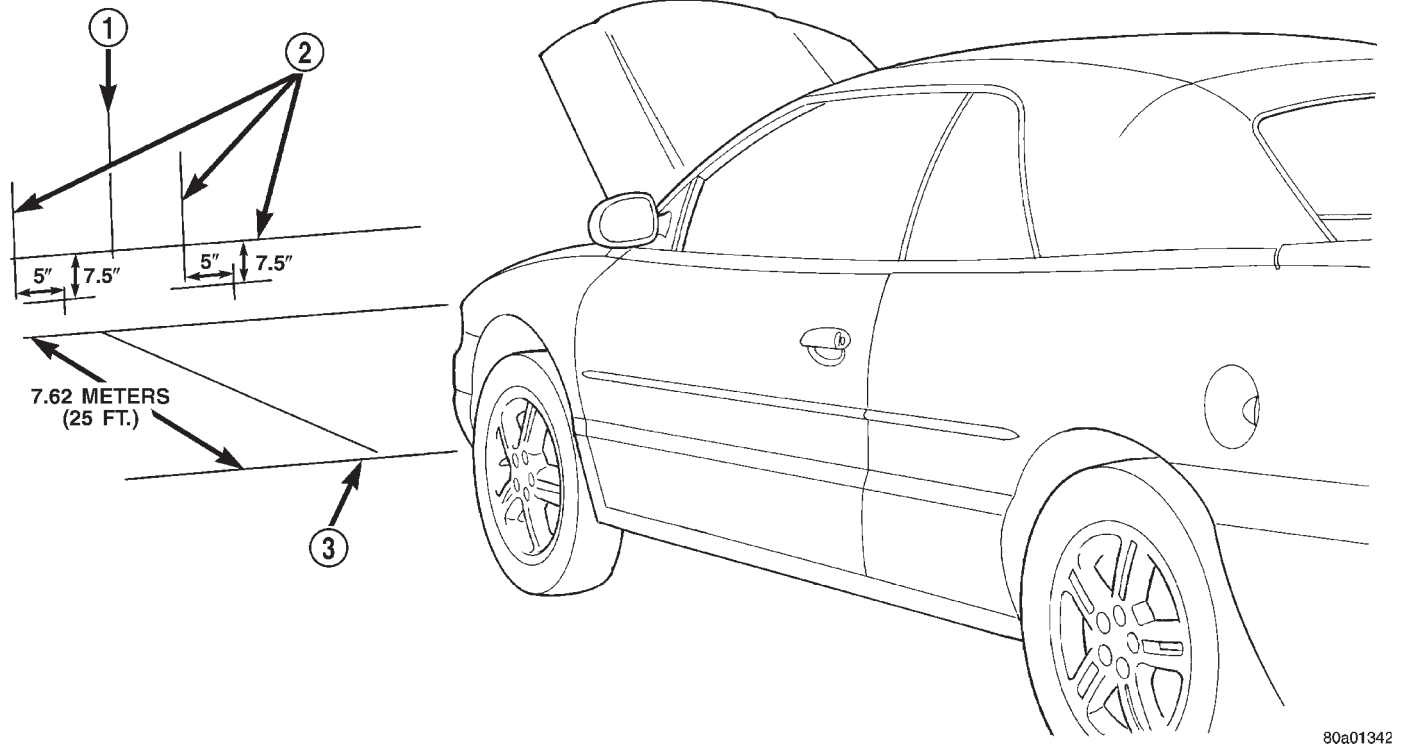

Fig. 3 Headlamp Alignment Screen
- (1) Position vehicle on a level surface perpendicular to a flat wall 7.62 meters (25 ft.) away from front of headlamp lens (Fig. 3).
- (2) If necessary, tape a line on the floor 7.62 meters (25 ft.) away from and parallel to the wall.
- (3) From the ground up 1.27 meters (5 ft.), tape a line on the wall at the center line of the vehicle. Sight along the center line of the vehicle (from rear of vehicle forward) to verify accuracy of the line placement.
- (4) Rock vehicle side-to-side three times to allow suspension to stabilize.
- (5) Jounce front suspension three times by pushing downward on front bumper and releasing.
- (6) Measure the distance from the center of headlamp lens to the ground. Transfer measurement to the alignment screen (with tape). Use this line for up/down adjustment reference.
A properly aimed low beam headlamp will project the center of the low beam hot spot on the alignment screen 190 mm (7.5 in.) below the headlamp center line. The side-to-side low beam hot spot should be 127 mm (5 in.) right of headlamp center line (Fig. 3). **The preferred headlamp alignment is 0 ($\pm 0.76^\circ$) for the up/down adjustment as indicated on bubble level. Preferred left/right alignment is 0 ($\pm 0.76^\circ$) as indicated on the gauge wheel.** The high beam headlamps cannot be aligned. The high beam pattern should be correct when the low beams are aligned properly.